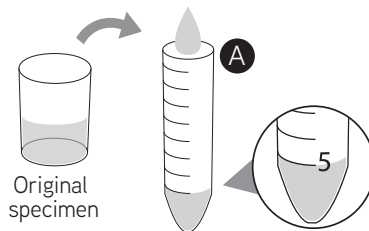

Fig. 2 - Specimen transfer to the REACTION TUBE (A)
Transfer of the specimen to the REACTION TUBE (A) (Fig. 2):
1. Open the REACTION TUBE (A).
2. Using a sterile pipette transfer 5mL of the original specimen to the REACTION TUBE (A).